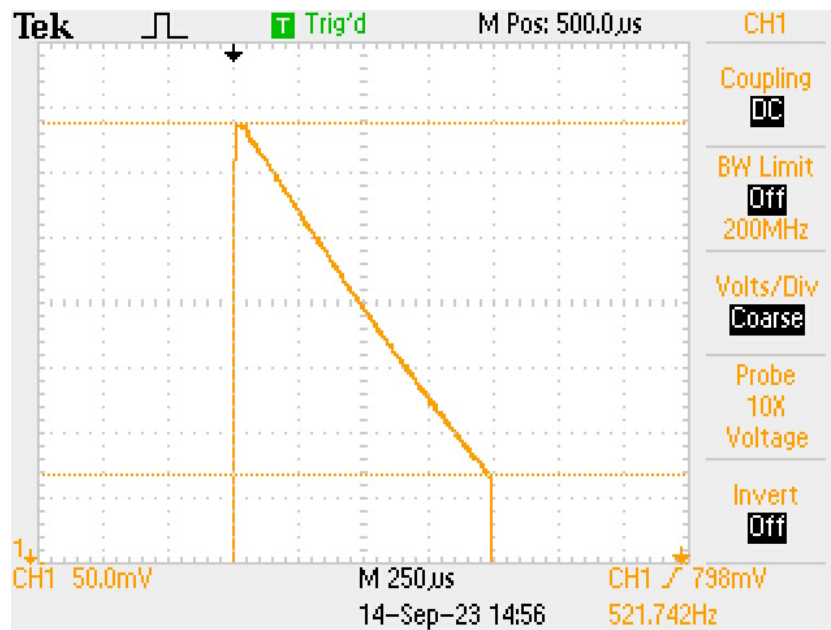

Figure 2.6: Tilt Measurement
- (d) Adjust the horizontal and vertical controls to accurately measure the tilt. See Figure 2.6 *Tilt Measurement*.